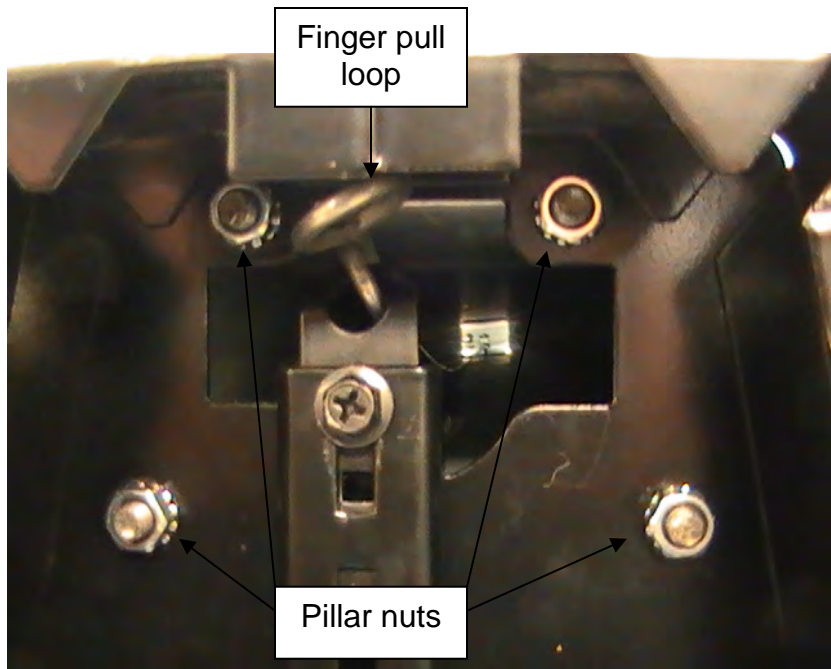

Figure 4
3. Locate the steel rod at the base of the pillar (see Figures 4, 5 & 6).
6. Tip the scale platform at an angle, resting the top of the pillar on any convenient support. Using the wrench provided, secure the pillar to the scale platform with the four nuts (see Figures 4 & 5).
7. Pull the steel rod toward the base of the scale platform by grasping the finger pull loop on the steel rod end (see Figures 4, 5 & 6).
8. Push the lever extension toward the pillar with your hand (see Figure 4, 5 & 6).